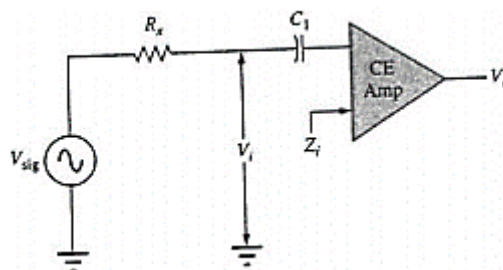

Figure 4: Circuit for determining input impedance
- To determine the input impedance of this amplifier, connect an input measurement resistor, $R_x = 10\text{k}\Omega$, as shown in Figure 4. Apply the AC input signal of 2V_{rms} at frequency of 1 kHz but this time through this known resistance. Measure V_i which is the signal after this resistor R_x input to amplifier. Note down in Table 3.